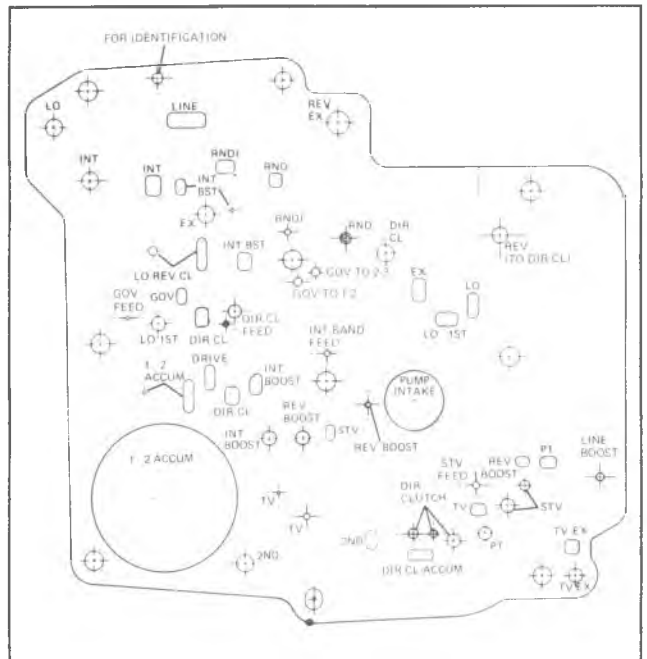

Fig. 7A-159A—Typical Valve Body Spacer Plate
2. Install 1-2 accumulator spring into case (Fig. 7A-158A).
3. Inspect control valve assembly and spacer plate for damage (Fig. 7A-159A).